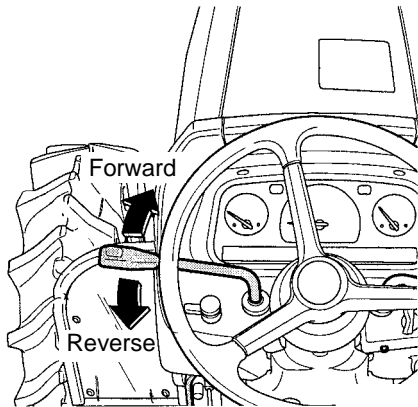

Figure 26
- Shift the Forward/Reverse Shift Lever to desired direction. See Figure 26.